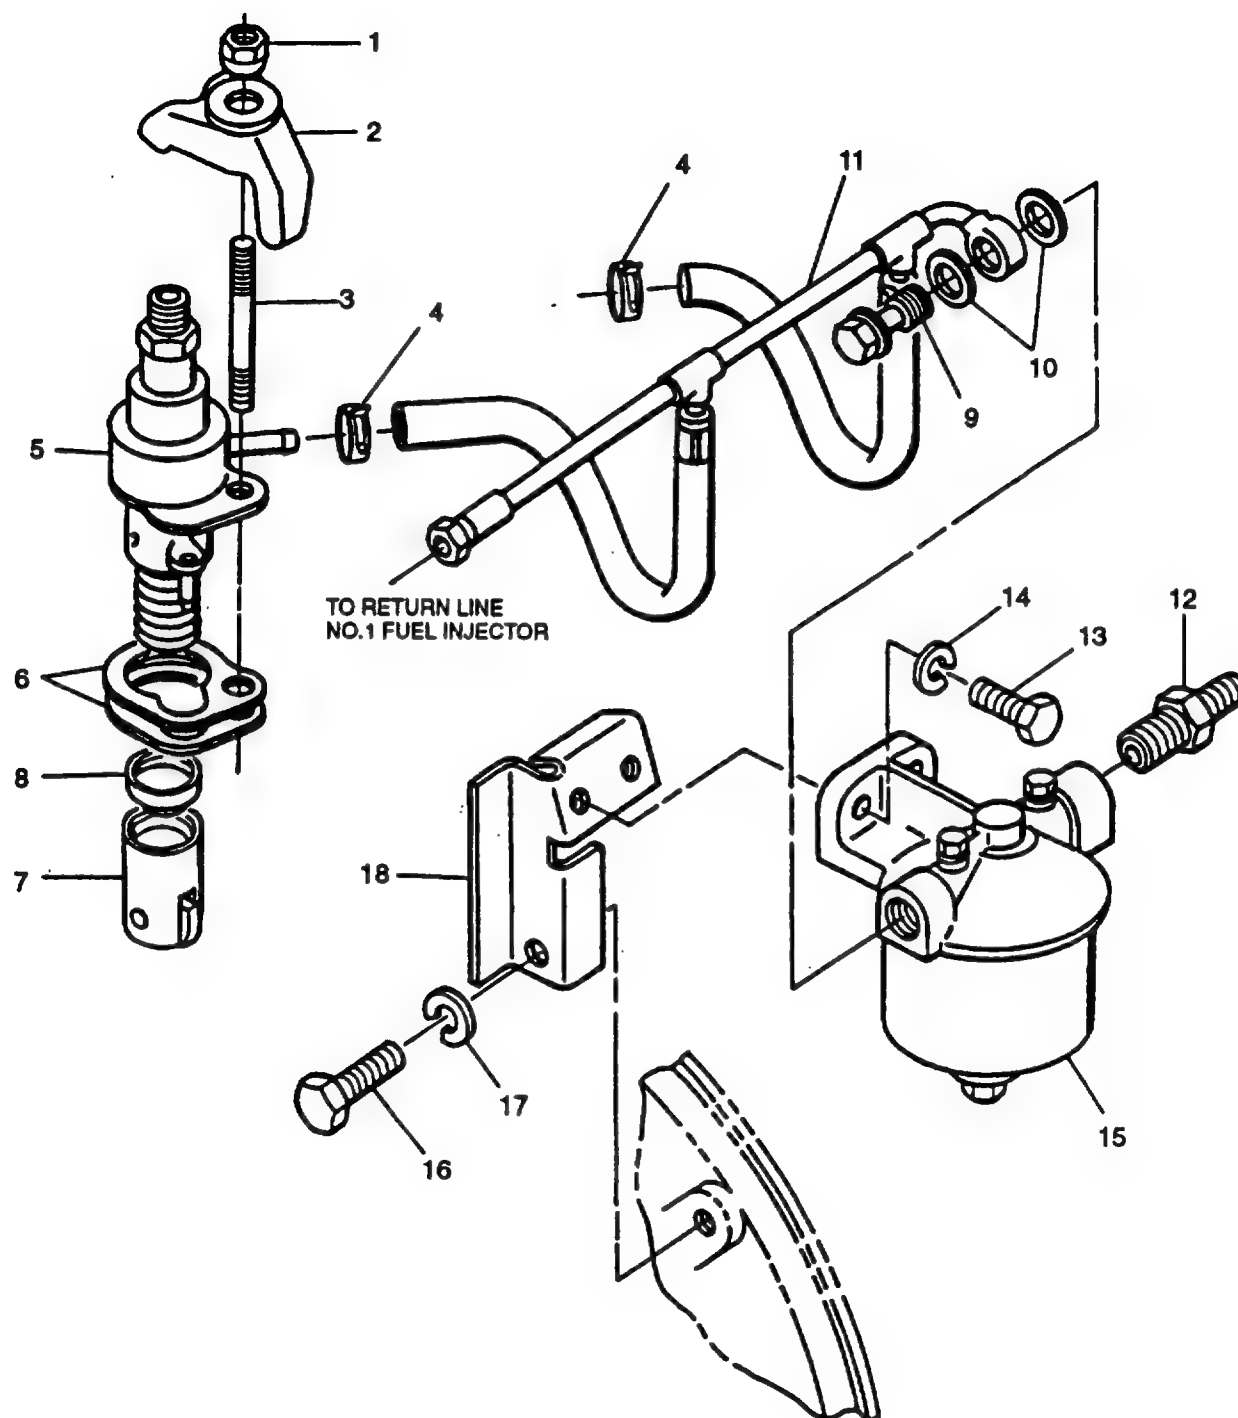
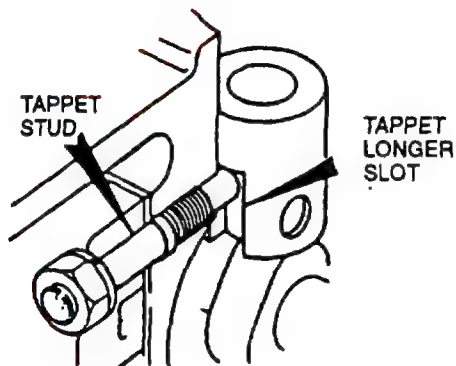

FIGURE 3-7. Fuel Injection Pump, Fuel Filter, and Supply Lines
FIGURE 3-8. Fuel Pump Tappet and Stud
- a. Loosen clamp (4, FIGURE 3-7) and disconnect fuel supply line (11) from fuel injector pump (5).
- c. Remove fuel injector pipe between pump (5), FIGURE 3-7 and fuel injector, refer to paragraph 3-18.
- e. Remove nut (1) and damp (2) securing fuel injection pump (5)
- c. If tappet (7, **FIGURE 3-7**) and thrust cup (8) were removed, install them as follows:
- (1) Tappet is installed in crankcase using long nosed pliers held open against top inside edge of tappet recess.
- (2) Submerge tappet in clean engine lubricating oil (MIL-L-2104).
- (3) Insert tappet in crankcase with longer slot facing outward to ensure it is correctly located over tappet stud, refer to **FIGURE 3-8**. Install thrust cup (8, **FIGURE 3-7**).
- g. If removed, install stud (3) **FIGURE 3-7**.
- h. Install correct original shim pack (6) on fuel pump (5).
(1) Do not remove or add to original shims installed between pump flange and steel plate.
(2) Use extreme care to ensure that individual shim packs are installed between each fuel pump plate and crankcase and that they are retained with their original respective cylinder.
(3) Shims are available in three sizes and are color coded, refer to **TABLE 3-3**
- a. Loosen clamps (4 **FIGURE 3-7**) and disconnect supply hoses of fuel line (11) from fuel injection pumps (5).
- b. Disconnect fuel return hose from fuel supply line (11).
- c. Remove swivel union plug (9) securing fuel line (11) to fuel filter (15); remove fuel line (11) and two seals (10). Discard seals (10)
- b. Connect fuel line (11. **FIGURE 3-7**) to fuel filter (15) using two new seals (10) and swivel union plug (9).
- c. Connect supply line (11) hoses to fuel injection pumps (5) and secure with clamps (4).
- d. Connect fuel return line to supply line (11).
- a. Disconnect end Hem fuel supply line from fuel filter (15), **FIGURE 3-7**.
- b. If damaged, (or if replacing filter assembly), remove fitting (12) from filter (15).
- c. Remove swivel union plug (9) securing fuel line (11) to fuel filter (15); remove fuel line (11) and two seals (10). Discard seals (10).
- d. Remove two capscrews (13) and lockwashers (14) securing filter (15) to mounting bracket (18); remove filter. Discard lockwashers (14).
- e. If damaged, remove cap screw (16) and lockwasher (17) securing bracket (18) to flywheel housing. Discard lockwasher (17).